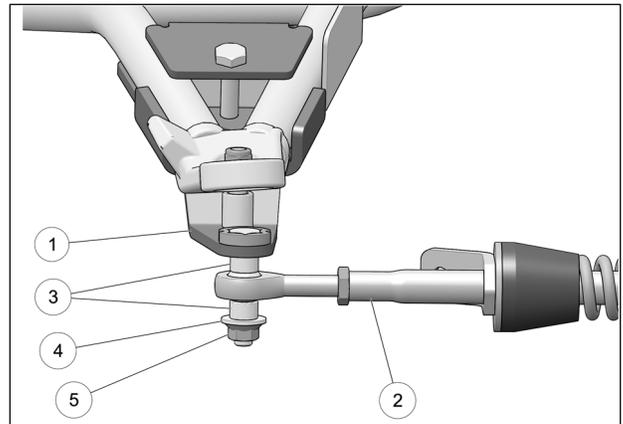

Fig. 19
9. Attach the stabilizing rod (2) to the anchor bracket (1), using the two spacers (3), washer (4), and nut (5). Torque to $70 \text{ N}\cdot\text{m}$ [$52 \text{ lb}\cdot\text{ft}$]. Refer to Fig. 19